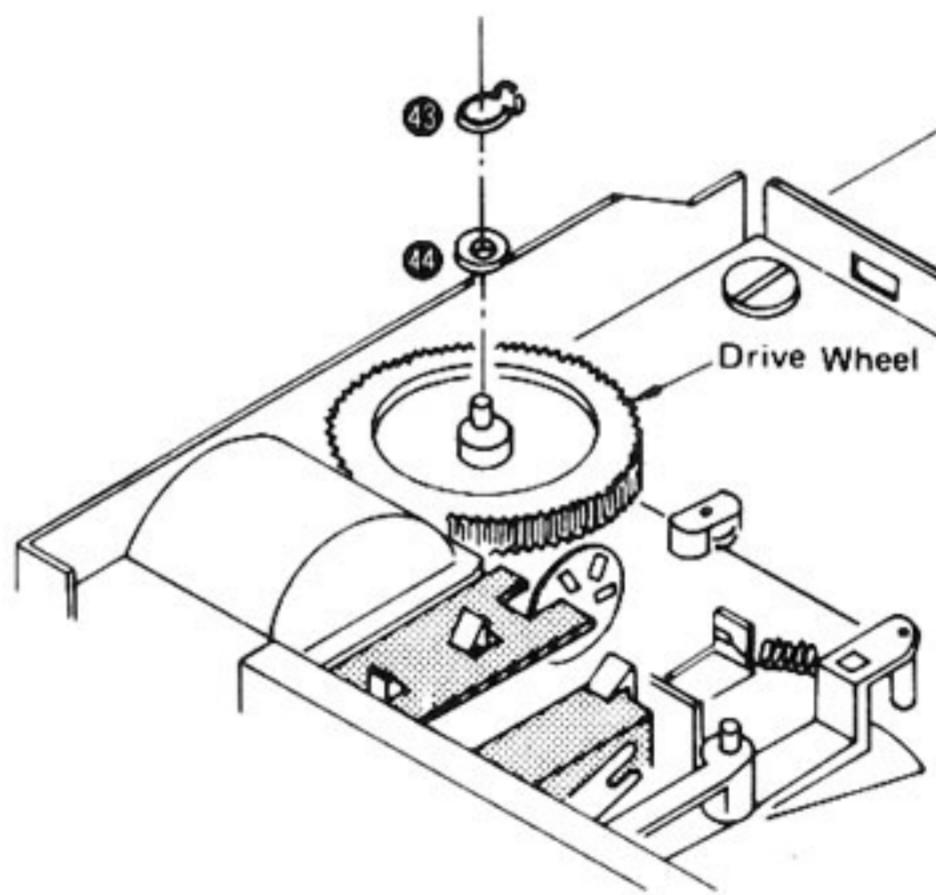

Fig. 15
3. Detach the arm drive wheel "C" ring ④ and washer ④, and remove the drive wheel. (See Fig. 15)